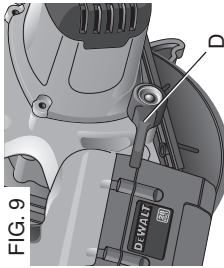

FIG. 9
1. Hold the saw firmly and loosen (clockwise) the depth adjustment lever (Fig. 9, D) and move shoe to obtain the desired depth of cut.